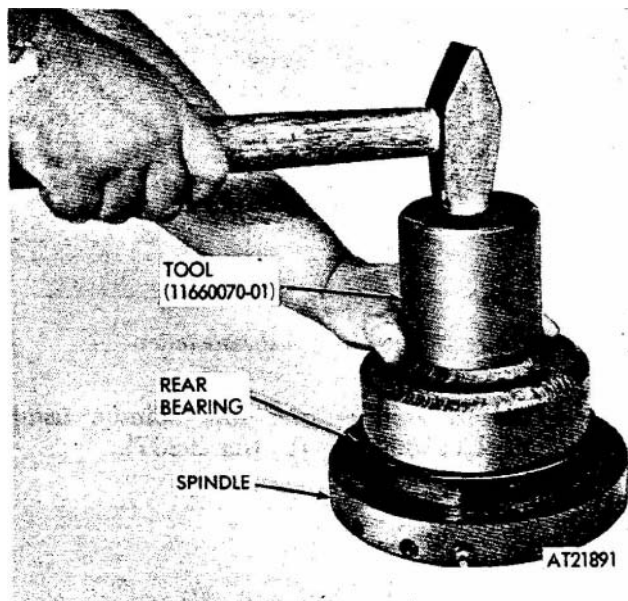

Figure 2-238. Seating rear bearing on spindle.
(6) Pack rear bearing with grease (refer to LO 9-2320-242-12). Position bearing over spindle shaft, it should slide down to its seat, if not, reposition bearing until it slides down. Seat bearing using installer tool (11660070-01) (fig 2-238).